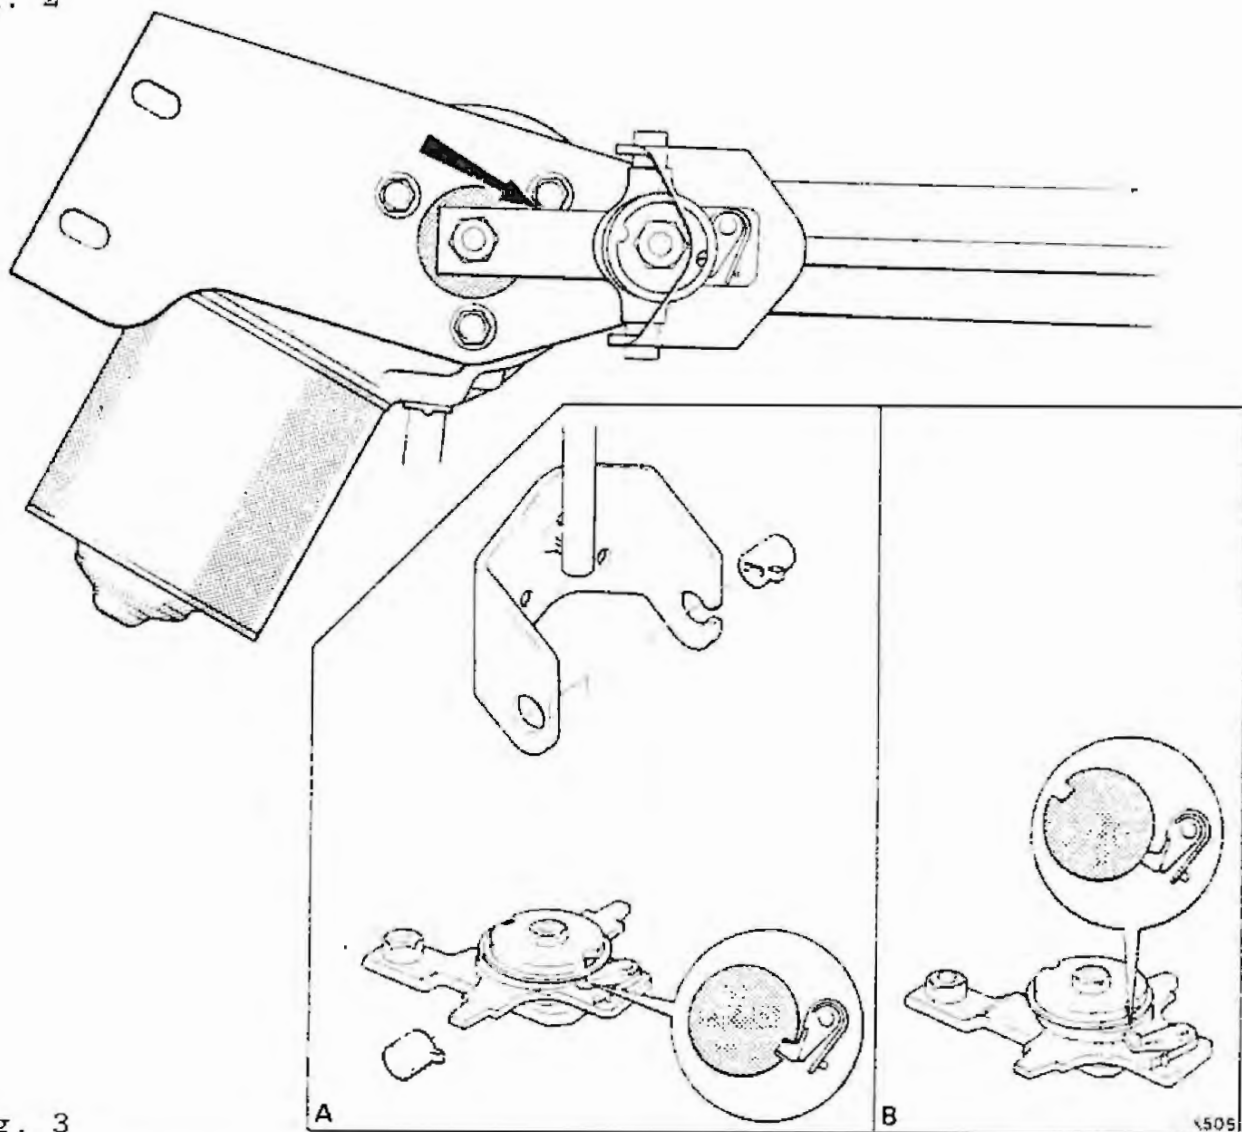

Fig. 3
- 10B Fit and set the position of the anti-streak mechanism to drive link rod (see fig. 3,A - Right-hand drive cars and fig. 4,A - Left-hand drive cars).
- 11B Fit the anti-streak mechanism to the motor and align it with the motor as shown in figure 3 - Right-hand drive cars and figure 4 - Left-hand drive cars.
- 12B Rotate the anti-streak mechanism to disengage the latching pawl as shown in figure 3,B - Right-hand drive cars and figure 4,B - Left-hand drive cars.